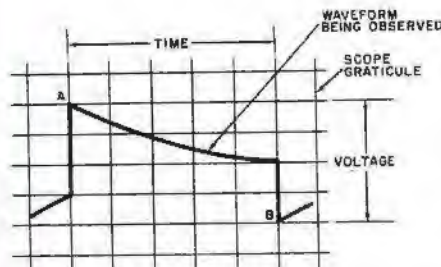

Fig. 1. Displayed waveform is plot of voltage versus time.
**Curves and Measurements.** The oscilloscope's usefulness in measuring time and voltage is illustrated in Fig. 1. Horizontal distances on the screen represent time by a fixed amount per graticule square, while vertical distances represent voltage, also by a fixed amount per square.
time between any two points on the display to be determined by multiplying the horizontal spacing in divisions by the numerical value of the TIME/DIV control setting. For example, the horizontal division between points A and B in Fig. 1 is five divisions. If the TIME/DIV setting is 100  $\mu$ s/division, the elapsed time between A and B is  $100 \mu$ s  $\times$  5 = 500  $\mu$ s.
tween any two points. The voltage (vertical) difference between points A and B in Fig. 1, therefore, is four divisions. Now, if the VOLTS/DIV control is set to 0.5 volts/division, the voltage difference is  $0.5 \times 4 = 2$  volts.